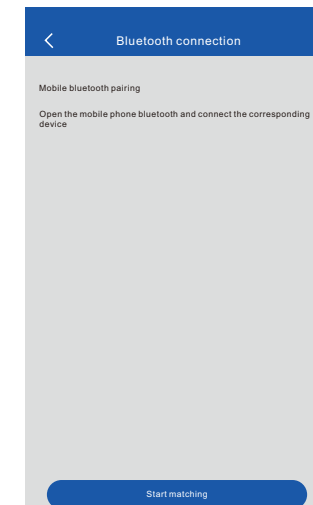

Fig.11
- ②. Click the icon of "bluetooth connection" on the login page to enter the bluetooth matching page in Figure 11, and click "start pairing" (Remark: when android user does not manually open bluetooth, it will automatically detect and prompt the user to open mobile phone bluetooth or not; or the user can manually open mobile phone bluetooth before connection, and then it will not prompt to connect directly; there is no prompt message for apple users, so they need to manually turn on the phone's bluetooth in advance, that is, open the physical bluetooth key);